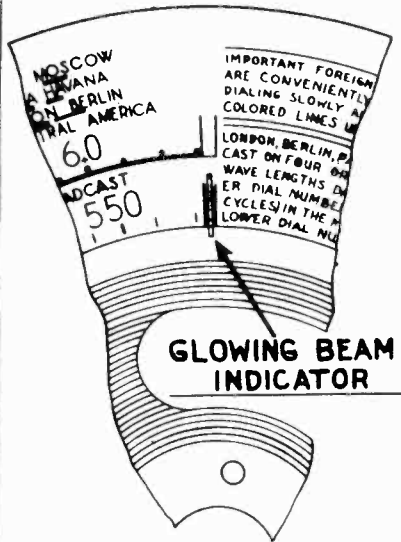
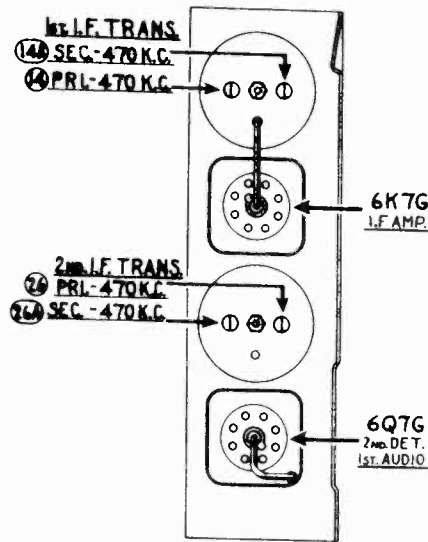

Fig. 2—Dial Calibration
Fig. 3—Locations of I. F. Compensators Top of Chassis
Philco Fibre Wrench No. 3164 and Fibre Handle Screw-driver No. 27-7059 complete the necessary equipment for these adjustments. The locations of the various compensators are shown in Figs. 3 and 4.
**DIAL ADJUSTMENT**—The Tuning Condenser is set at the maximum capacity position, by turning the tuning knob counter-clockwise. Loosen the set screw of dial hub and set dial, (see Fig. 2) with Glowing Indicator centered between the index lines at the low frequency end of scale.
Fig. 1 shows the Voltage measurements taken from the bottom of the socket at each contact. In Fig. 2, the correct position of the dial indicator, for proper adjustment of the compensators is shown. Figs. 3 and 4 show the location of the I. F. and R. F. compensators respectively.